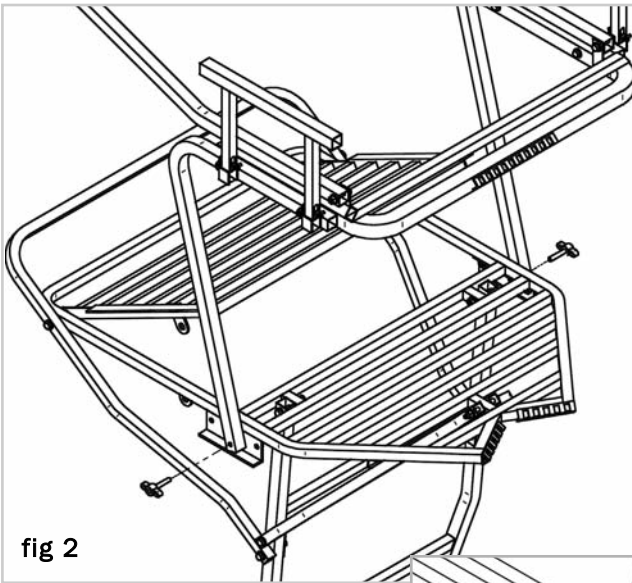

fig 2
4. Align **SEAT FRAME SUPPORTS** to tabs on **PLATFORM**. Be sure to line up hole on bottom of upright so **SEAT FRAME** is level. (fig 2)